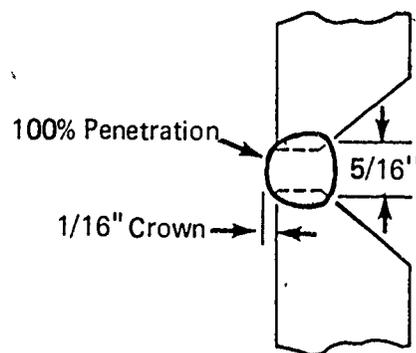

FIGURE 7
- K. Travel at speed to fill joint and produce a bead face width of $5/16$ " with a $1/16$ " crown (Figure 7)